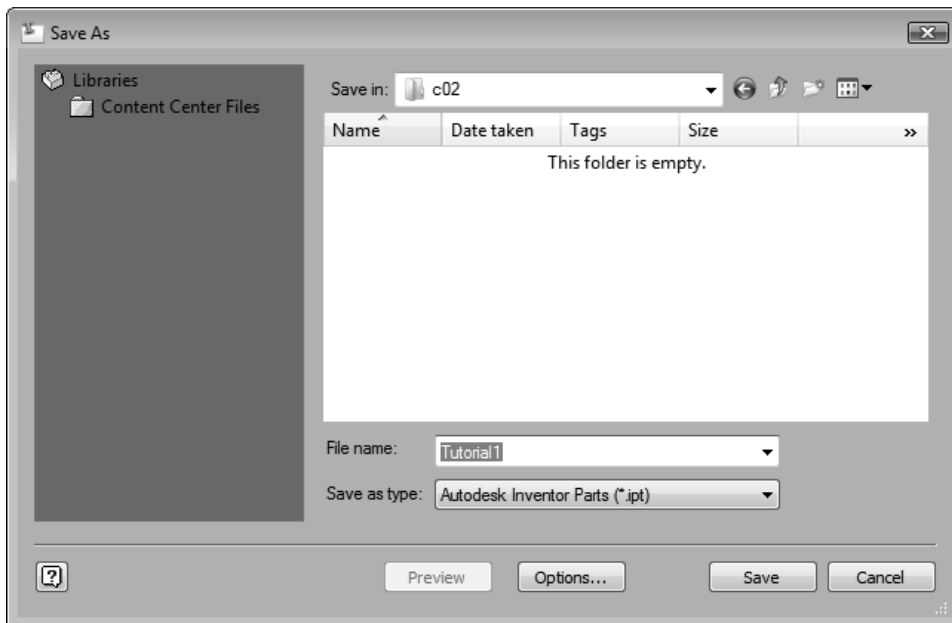

Figure 2-47 The **Save As** dialog box
4. Enter *Tutorial1* as the file name in the **File name** edit box, refer to Figure 2-47, and then choose the **Save** button from the **Save As** dialog box to save the sketch.